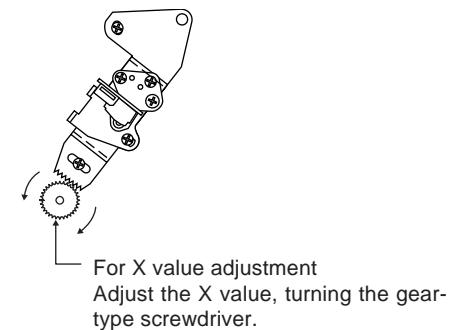

Figure 4-33.
Move the A/C head with the X value adjustment gear driver (JiGDRiVER-6) by the method shown in Figure 4-33, and adjust the A/C head so as to get the maximum envelope waveform. (Note: When the A/C head is adjusted, adjust so that the maximum envelop waveform is obtained nearest the position of initial setting made in Page 18.)
- ① Tentatively fix A/C head arm screws ① and ② by the method described in Page 18 "Replacement 3".
- ② Playback the alignment tape and shortcircuit TP802. As a result the auto-tracking is automatically cancelled, so that the X value adjustment mode is set.
- ③ Move the A/C head with the X value adjustment gear driver by the method shown in Figure 4-33, and